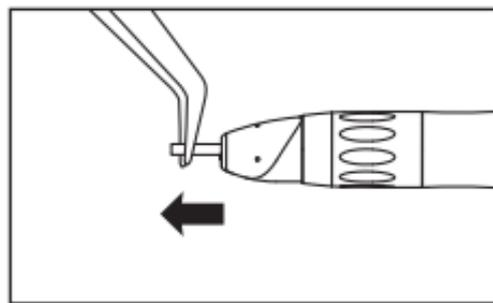

Fig. 10
- Be sure to take the step “7-1 Cleaning at point-of use ②” before removing the bur. If the handpiece operates without the bur, it may cause burn injuries due to sudden heat generation. In addition, the motor insert could be damaged which may lead to difficulty in connecting and disconnecting the handpiece.
- 3** Remove the bur. (Fig. 10)